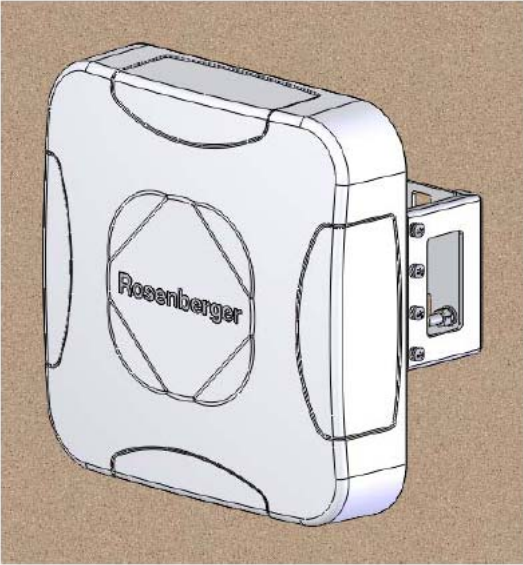

Figure 31
Step 7. The active module clamp on the bracket, as shown in Figure 31.